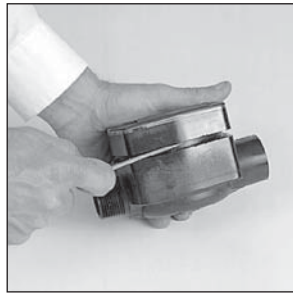

Figure 4
3. Gently pry the coverplate from the housing. Take care not to damage the coverplate, housing, or O-ring. (Figure 4)